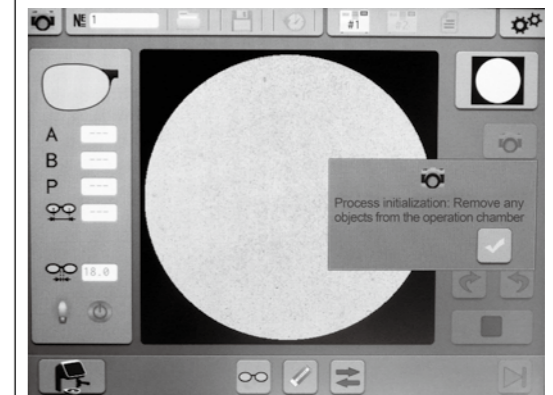
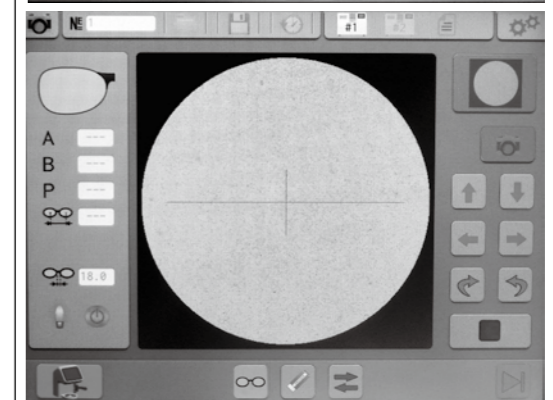

fig.1
fig.2
2. Make sure that empty out the things(include the lens bracket) of shooting area.(fig.1 fig.2)